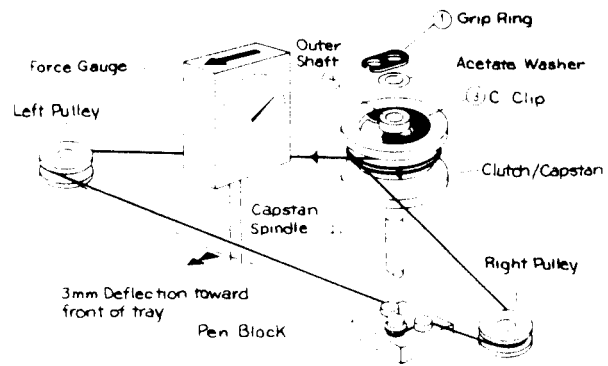

Figure 3-19 Servo drive cord installation
- (1) Slacken the two pen motor securing screws so that the motor can be moved back and forth.
- (2) Slacken the cord retaining screw on the white molded pen block; remove the cord from the block.
- (3) Remove the grip ring #1, Figure 3-19, from vertical shaft #2, then remove the circlip #3, from the phosphor bronze outer shaft #4.
- (4) Construct a measuring jig by tapping two panel pins 8.25 inches (210 mm) apart into a wooden bench top. Loop the replacement cord round one pin; then knot very firmly the two ends round the other pin to give a continuous loop of 16.5 inches (420 mm) total length. Cut off the surplus cord and seal the knot with quick drying varnish.
- (5) Using a length of fine-gauge wire as a threader, feed the cord loop with the knot to the inside through the hole in the side of the gray plastic capstan; pull the cord tight against the knot.
- (6) Reassemble the capstan components exactly as originally installed: the number and location of the acetate washers is critical in determining the slipping torque of the clutch.
- (7) Hold pen tray with scale plate forward. With the hole in the capstan facing the scale plate, wind the left hand half of the cord loop **three times clock-wise** round the capstan, and then round left hand pulley, Figure 3-19. Run the other half of the cord loop round the right hand pulley.
- (8) Position the pen block to the left side of the pen servo tray; then run the cord round and under the clamp bush on the pen block. Lightly tighten the clamp screw.
- (9) Slide the pen block to the right side of the tray to ensure that full traverse of the block is not impeded and the cord winds evenly on the capstan. If necessary adjust the position of the pen block in relation to the cord. Tighten the cord clamp screw.
- (10) Cord tension is checked with a force gauge calibrated from zero to 15 grams, such as Correx (available from Chessell, No. 208 520). Position the force gauge so that blade deflects the cord when the gauge is moved toward the front of the pen tray. The force indication should be between 9 and 11 grams with the cord deflected 3 mm (approximately 0.1 inches). Move the pen motor forward or back as necessary, then tighten the motor securing screws.